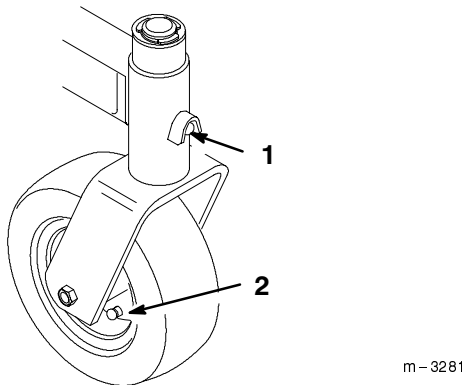

Figure 34
3. Grease the fittings on the carrier frame mounting tubes and castor wheels (Fig. 34).